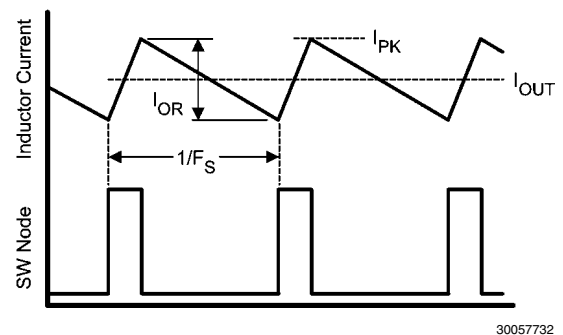

FIGURE 3. Inductor Current Waveform
**L1:** The main parameter controlled by the inductor value is the current ripple amplitude ( $I_{OR}$ ). See Figure 3. The minimum load current for continuous conduction mode is used to determine the maximum allowable ripple such that the inductor current's lower peak does not fall below 0 mA. Continuous conduction mode operation at minimum load current is not a requirement of the LM5085, but serves as a guideline for selecting L1. For this example, the maximum ripple current is: